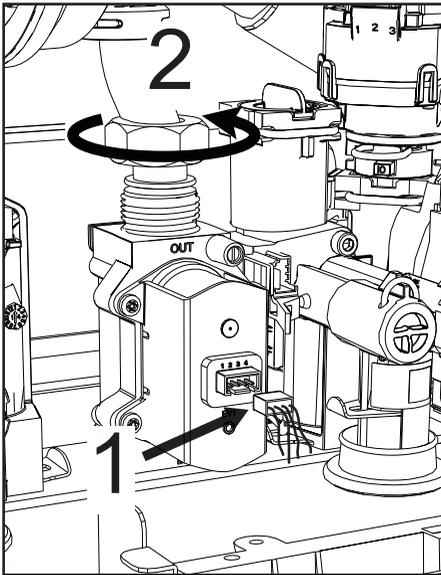

fig. 58
- Disconnect the electrical connectors "1" (fig. 58).
- Disconnect the gas supply pipe "2" (fig. 58)